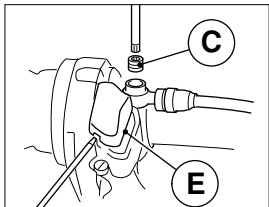

Fig. 10
- Use a screwdriver introduced in the specific slots to loosen and remove cover E (Fig. 10).
- Loosen the grub screw C (Fig. 10) and remove the O-ring from the coupling screw head having care not to damage the particularly small-sized O-ring.